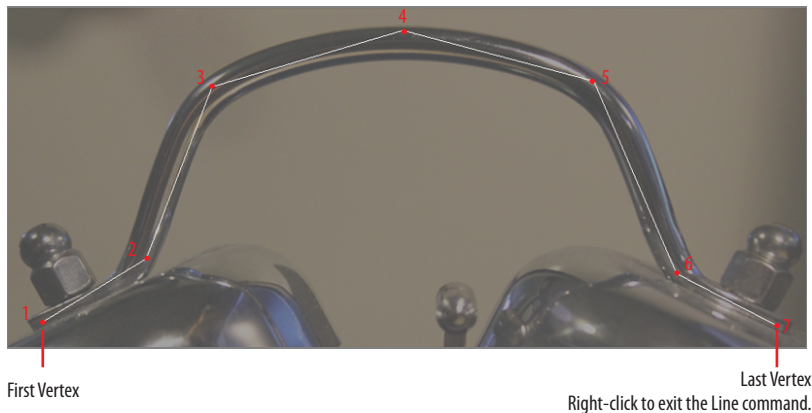

FIGURE 2.20 The intended cross section for the clock handle
Creating a line using this method can be difficult; it is easier to start with a simple shape and add more detail later. Figure 2.20 shows a simplified line that represents the clock handle.
3. In the Front viewport, click to set a vertex and let go (refer to the first vertex in Figure 2.20).